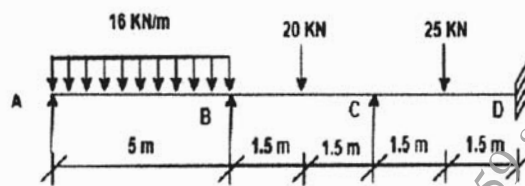

Figure 4
- Q3)** a) Analyze the beam shown in figure 4 by moment distribution method. Assume uniform flexural rigidity. [12]